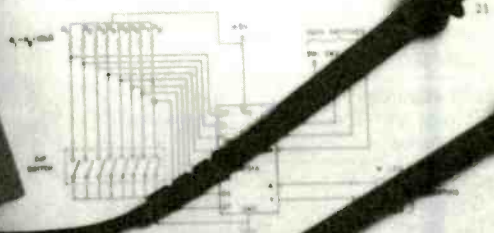
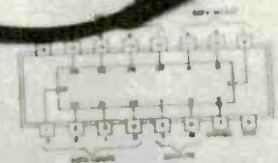

Fig. 16 Circuit for Experiment 2
Fig. 17 Pin diagram for 74151A
Figure 16 shows the circuit diagram for this experiment. You'll need the component numbers for the IC aren't included in the diagram. For these, refer to the data sheet to refer to Fig. 17, which shows pinout for 74151A data. For the data sheet, you'll use an eight-pole DIP switch in conjunction with 10K resistors. For the Select and strobe lines, finally, you'll use the two push switches.
2. Connect the eight 10K resistors to the DIP switch as shown in Fig. 16. Connect the opposite end of each of these resistors to the +5V supply. The second terminal of each switch is to be connected to the trainer ground.
4. Set, connect the trainer data switches to the Select and Strobe lines, using Fig. 17 as a guide. Initially, set SW1 to the 0 position.